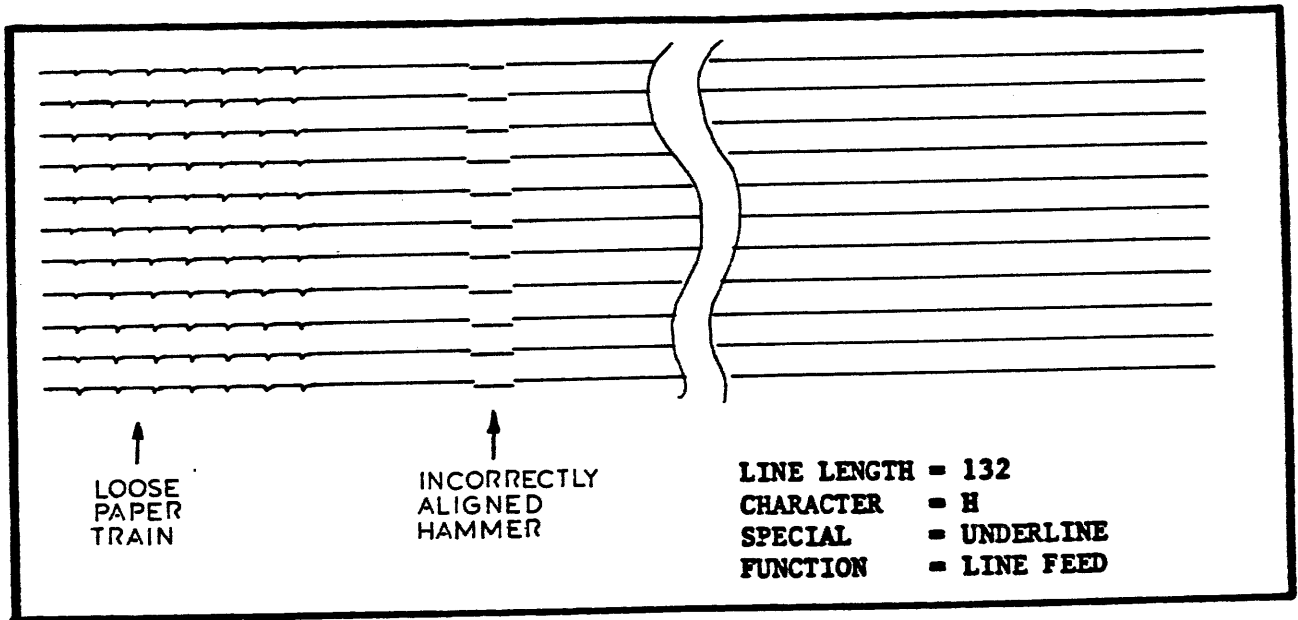

Figure 70 Underlines, Sample Printout
- Function = Line Feed (LF).
- c. Place the printer ON LINE by pressing the ON LINE pushbutton. Print one half page of underlines. Press the ON LINE pushbutton to take the printer off line (Figure 70).